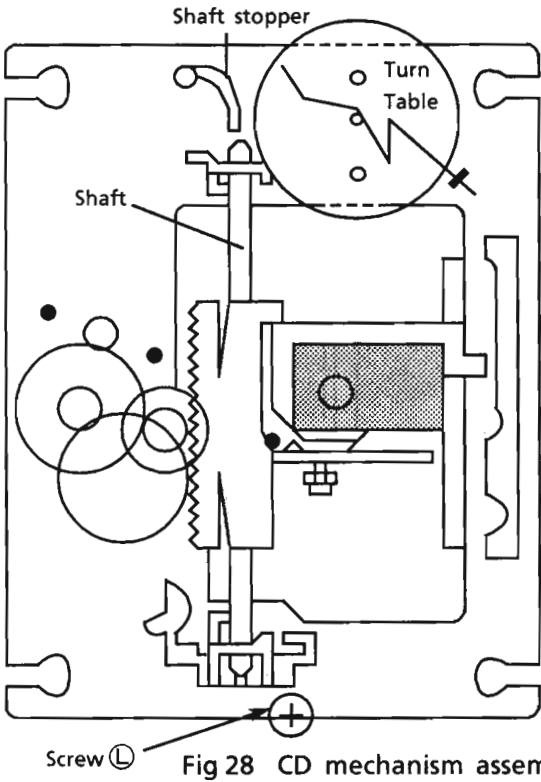

Fig 28 CD mechanism assembly
2. Release the shaft to remove the pickup (Fig 28).